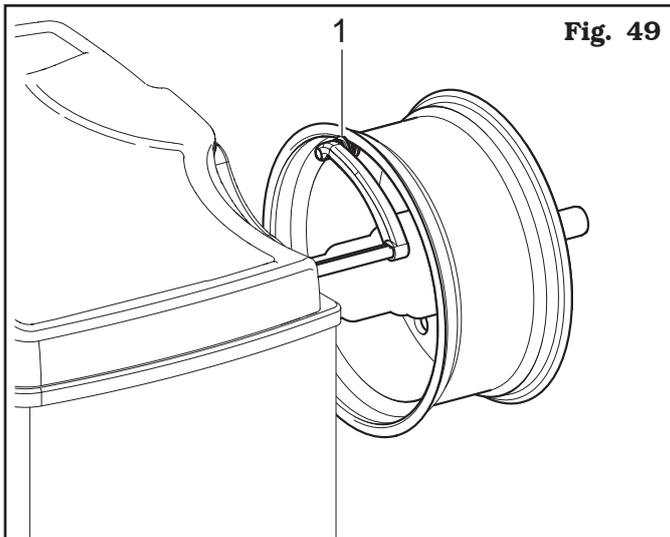

Fig. 49
Place the distance-diameter caliper grippers (Fig. 49 ref. 1) on the inner side of the rim, as shown in Fig. 49.